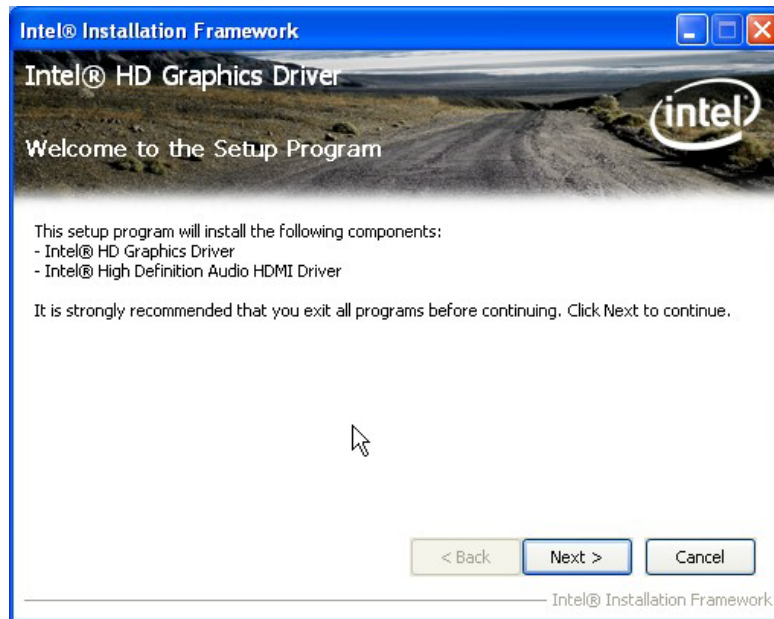

Figure 6-8: Graphics Driver Welcome Screen
- Step 4:** The **Welcome Screen** in Figure 6-8 appears.